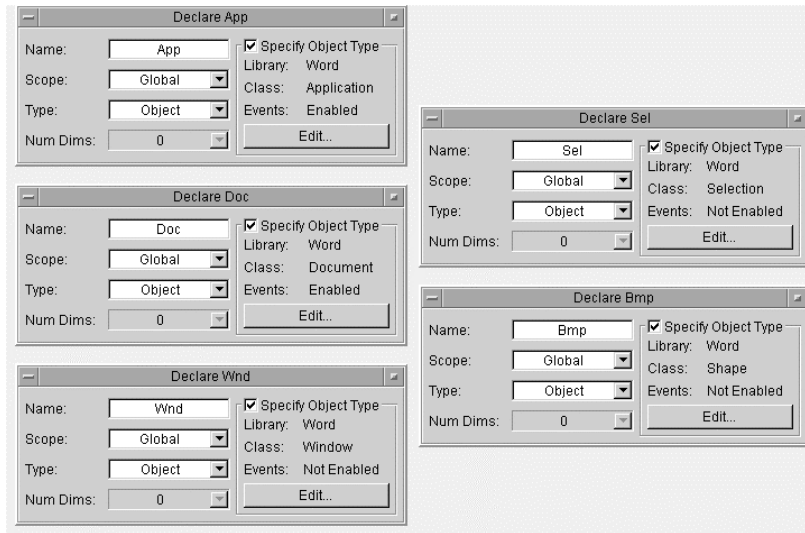

Figure 9.10. The five Declare Variable objects
6. See Figure 9.10 to verify your selections.